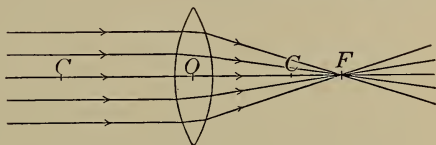

FIGURE 96. — PRINCIPAL POINTS OF A LENS.
**137. Meaning of Terms.**—The line drawn through the centers of curvature of the two surfaces is called the *principal axis*. ( $CC$ , Figure 96.)